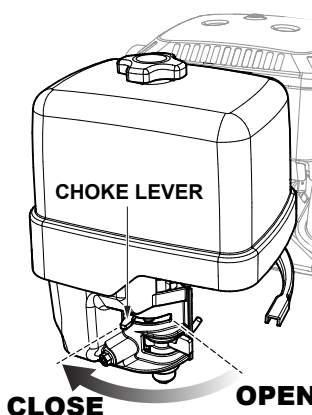

Figure 12. Engine Choke Lever (Closed)
4. If starting a cold engine, place the **engine choke lever** in the **CLOSED** position (Figure 12).